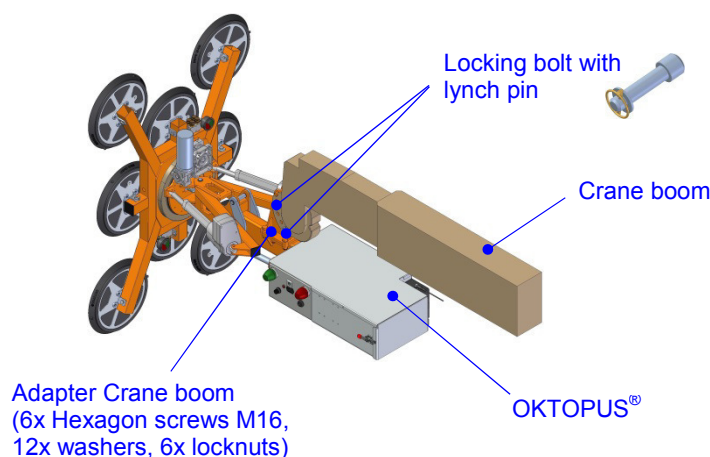

Fig. 10: Coupling the OKTOPUS® to the head of the crane boom
- Attach the OKTOPUS® to the head of the crane boom using the two locking bolts with lynch pin included in the delivery (s. fig. 10).